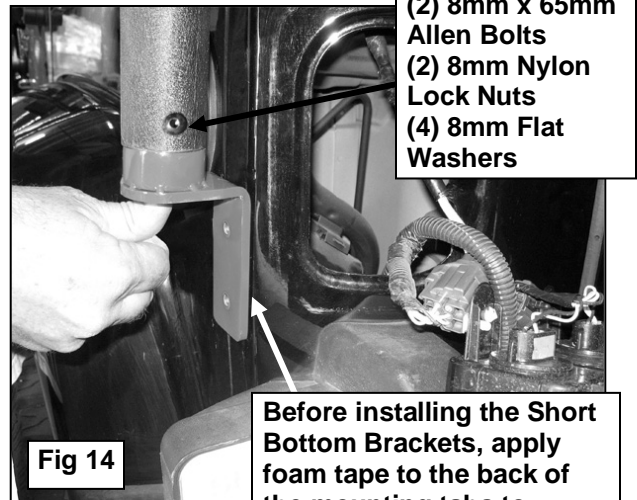

Fig 14
5. **OPTIONAL:** If you decide to bolt the Roof Rack directly to the body of the vehicle, remove both taillights from vehicle at this time, (**Figure 5**). **NOTE: Drilling required for "Bolt Direct to Body" Installation. See Figures 14-On, Steps 18-On for detailed information.**
18. Select the (2) Short Bottom Brackets and apply Peel and Stick Foam Gasket Material (G) to the back of the 2-hole mounting tabs. With assistance, hold the rear section of the Roof Rack up and attach the Short Bottom Bracket to the Rear Top Leg Section using the included (2) 8mm x 65mm Allen Bolts, (4) 8mm Flat Washers and (2) 8mm Nylon Lock Nuts (**Figure 14**).